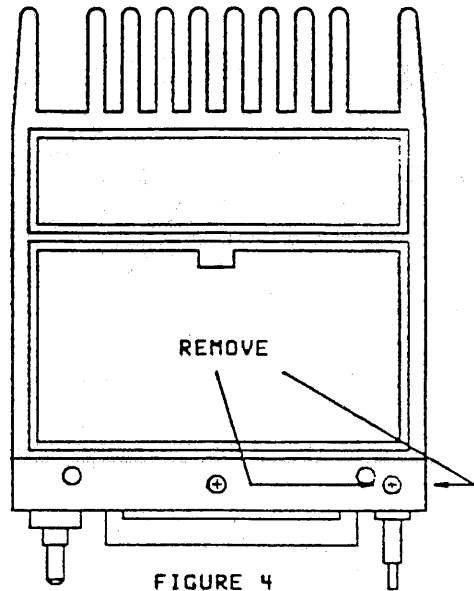

FIGURE 4
8. Remove the brass colored screw that is mounted on the front panel chassis above the Power switch. **Figure 4**
9. Remove the brass colored screw that is mounted on the front panel chassis to the right of the microphone jack. **Figure 4**